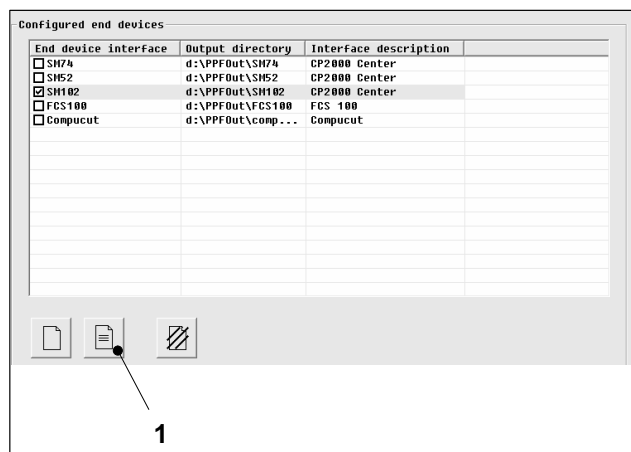

Fig. 40 Installed terminals
1. Click on the *Edit terminal interface* button (Fig. 40/1).